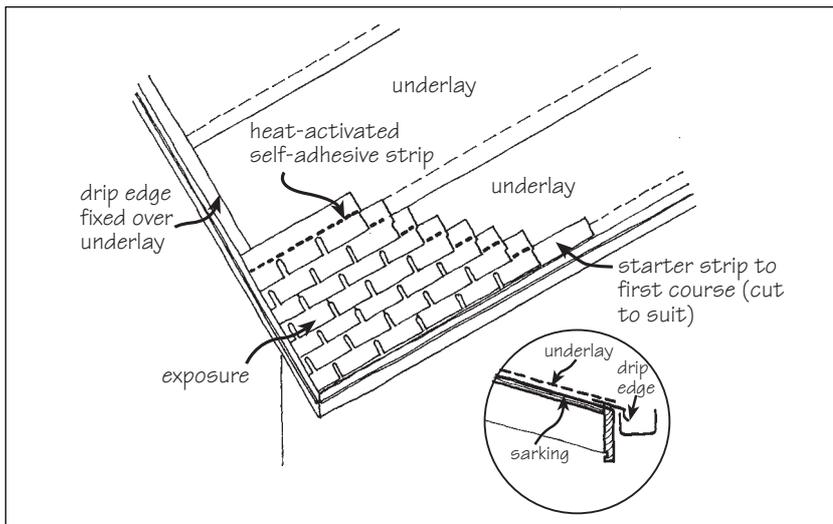
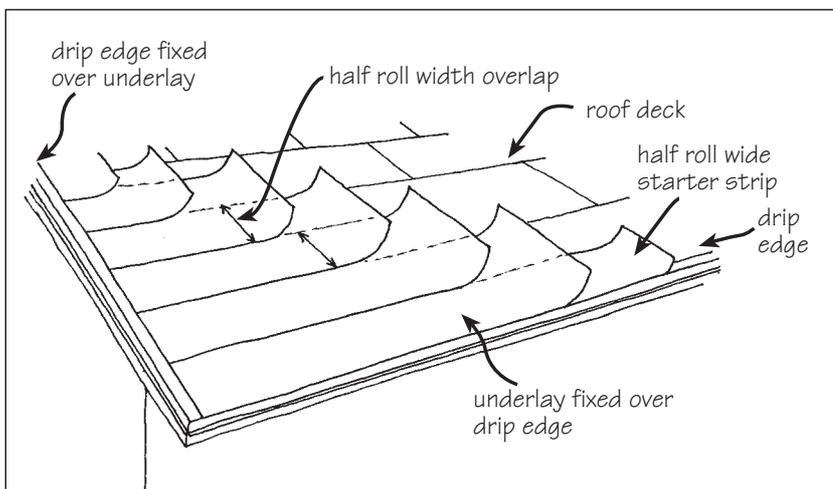

Figure 1: Standard underlay and shingle layout showing offsets.
Figure 2. Underlay to low pitched roof.
2.10.1 All asphalt shingle roofing systems require the installation of a roofing underlay (Figure 1). The underlay used varies between suppliers but is generally described as a roofing felt (classified by weight) or asphalt-saturated felt. In most instances the shingle supplier will also supply the underlay. Underlays must be a breather type specifically manufactured for use under asphalt shingle roofing.
2.10.3 Additional layers of underlay are required on low slope asphalt shingle roofs to provide sufficient defence against water entry between the shingles (Figure 2).
3.4.2 Underlays must be laid across the roof slope. Horizontally lap underlay 50 mm minimum for roof pitches over 18° and by half a roll width to provide double coursing (refer Figure 2) for pitches between 10 and 18°. End laps should be at least 100 mm (refer Figure 1).
3.5.3 Lay shingles across and up the roof slope to the ridge, offsetting the shingle notches in adjacent rows (refer Figure 1). Mix shingles from different bundles to minimise patterning and colour shading problems.